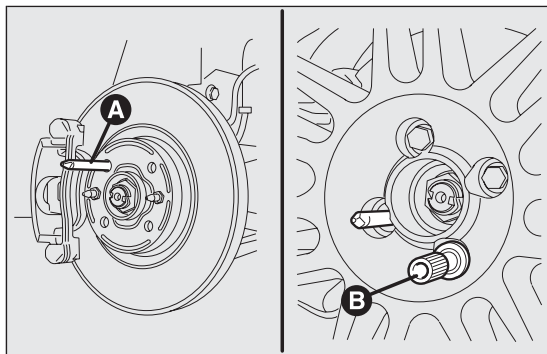

fig. 148
- tighten centering pin A fig. 148 in one of the fixing bolt openings on the wheel hub;